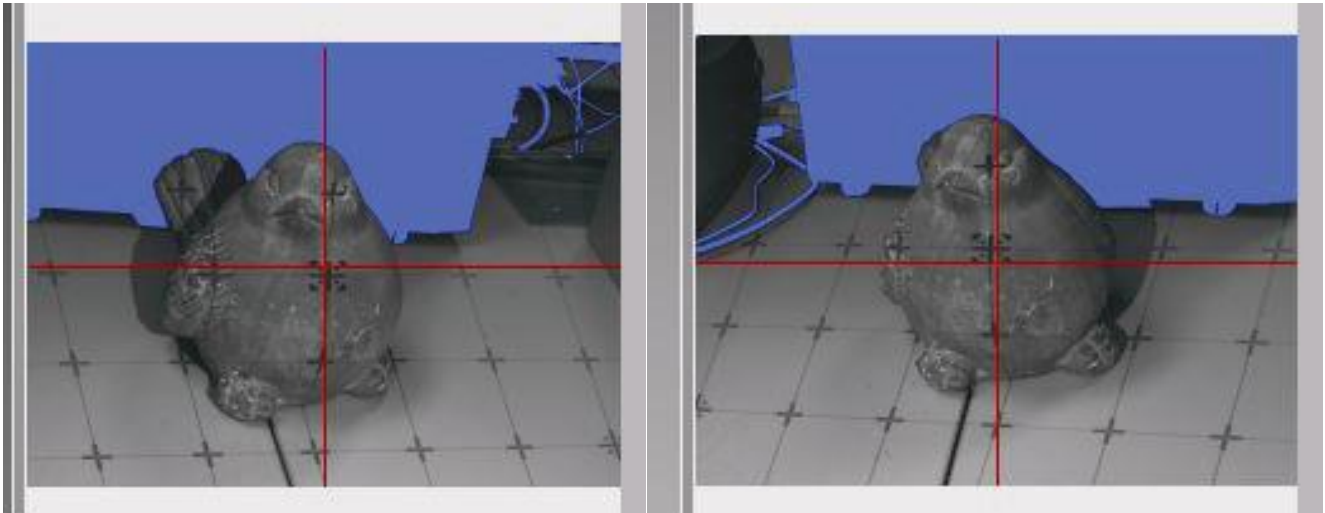

Figure 3
- To get the correct camera focus, adjust the distance between the scanner and the object so that the red crosshairs in both the cameras intersect at the same point on the object as shown in Figure 3. You can set the projector pattern to FOCUS and align the red crosshairs over the crosshair of the focus pattern.